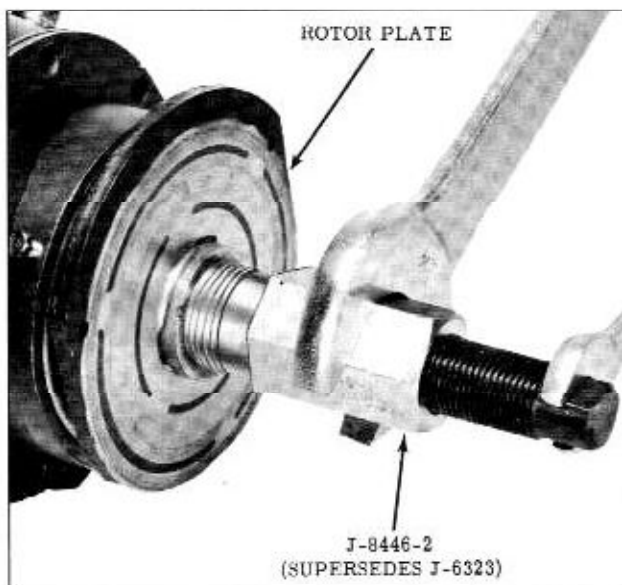

Fig. 14-25 Installing Rotor Plate
3. Thread the bolt of Tool J-6323 or J-8446, without spacer, onto the compressor shaft, and while holding the bolt, turn the nut counterclockwise until the rotor plate seats against the spacer and shims. (Fig. 14-25) Remove the tool(s).
6. Install the rotor plate on the compressor shaft. (Fig. 14-25)